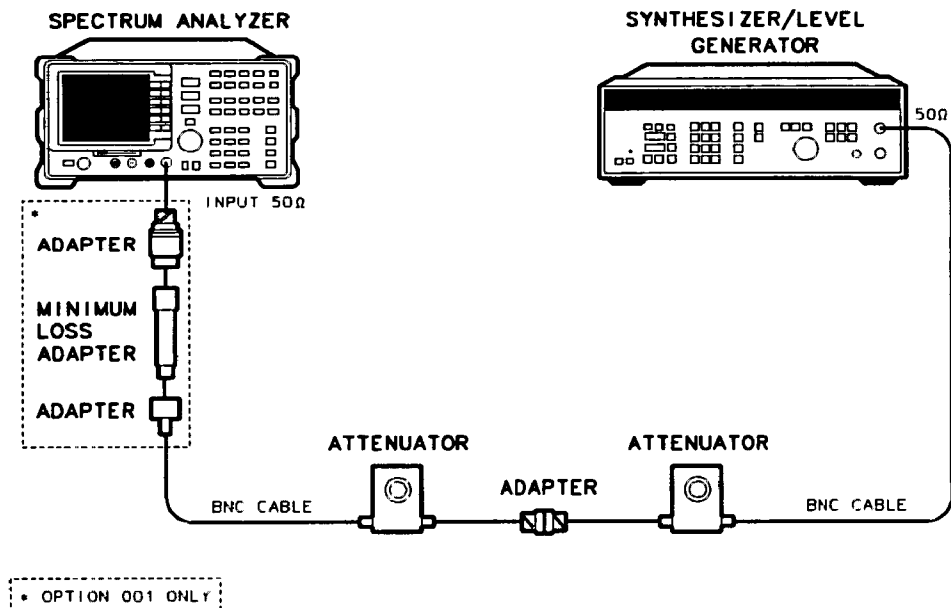

Figure 3-16. Input Attenuator Accuracy Test Setup
1. Connect the equipment as shown in Figure 3-16. Set the HP 355D to 20 dB attenuation and the HP 355C to 0 dB attenuation.